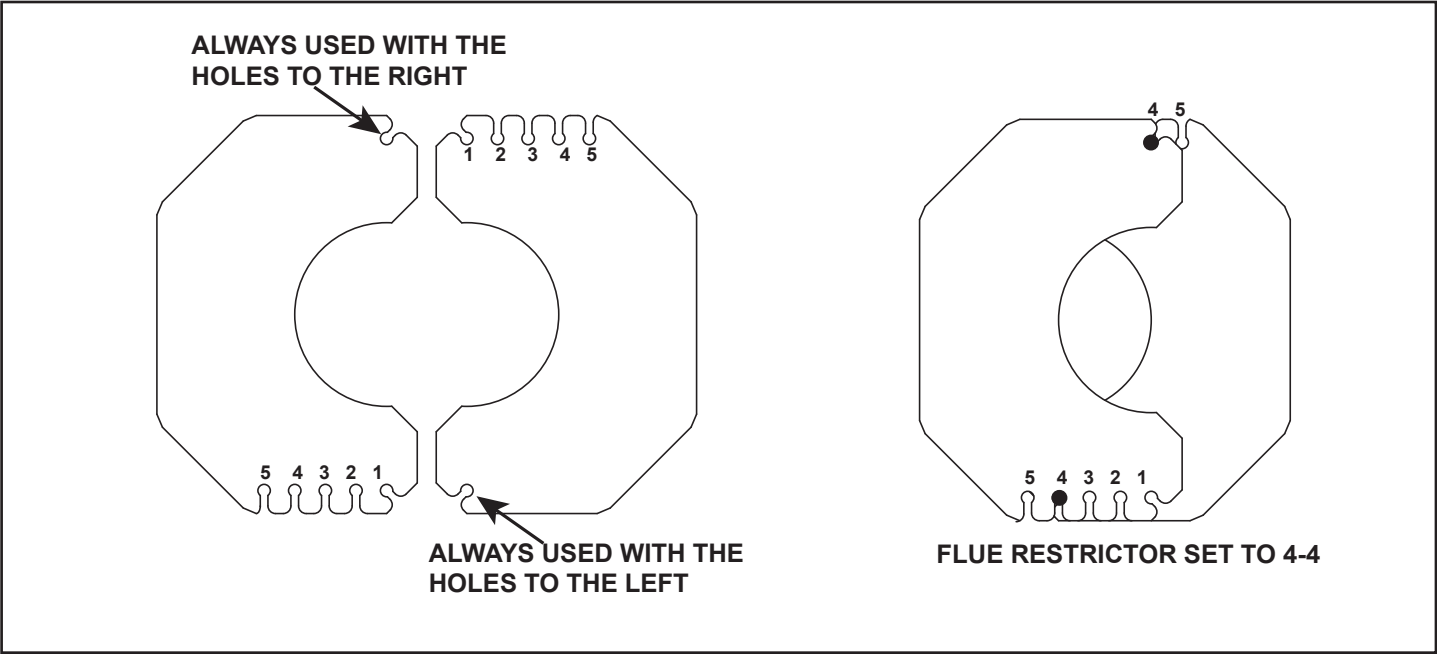

Figure 4.16. Setting the Flue Restrictor
2. Orientate and align the two pieces of the flue restrictor as shown in Figure 4.16.